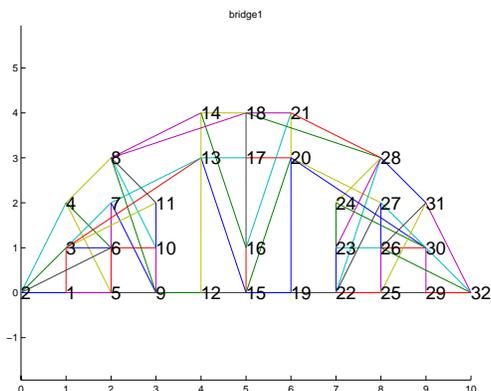

Figure 1: Geometry of a bridge1 with labeled nodes.
a) After downloading and unzipping the truss and SDPT3 packages, you will see a file called `bridge1.txt`. Download the text file `bridge1.txt` for the bridge shown in Figure 1.
The format of the input in this file is “node1x node1y node2x node2y area”. For example, the first line of the `bridge1.txt` file is “1 0 0 0 1.6”, which means that there is a bar from (1,0) to (0,0) of area 1.6. (Note that the file contains an extra last line.) Run `truss.m` (just type `truss`) to prepare an input file for the SDPT3 program. Constrain the two end nodes of the bridge (nodes 2 and 32 as you can see in Figure 1) in both the x and y degrees of freedom (you will be prompted for this information).